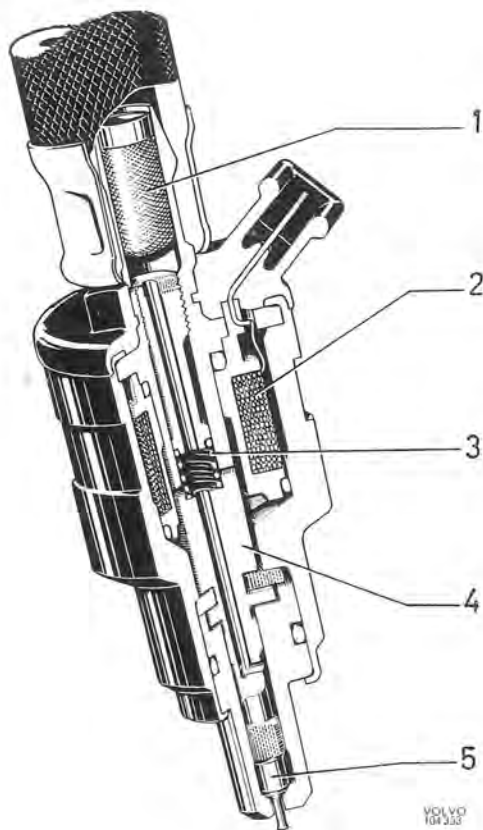

Fig. 2-106. Injector
The injector consists of a housing containing a sealing needle, magnetic winding and return spring, see Fig. 2-106. When the magnetic winding (2) is not in circuit, the return spring (3) presses the sealing needle (5) against a seat and this closes off the supply of fuel. When the magnetic winding receives current from the control unit, it attracts the rear section of the sealing needle (5), which is shaped as a magnetic armature, and this lifts the needle about 0.5 mm (0.02") from the seat and allows fuel to pass. Since the needle and opening in the valve are accurately calibrated and the fuel pressure is constant, only the valve opening interval (2—10 milliseconds=0.002—0.01 seconds) determines the amount of fuel injected.